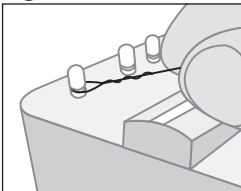

Figure 3
4. Put the looped end of the “G” string around the corresponding anchor post on the left hand side of the harp. (Fig. 3)